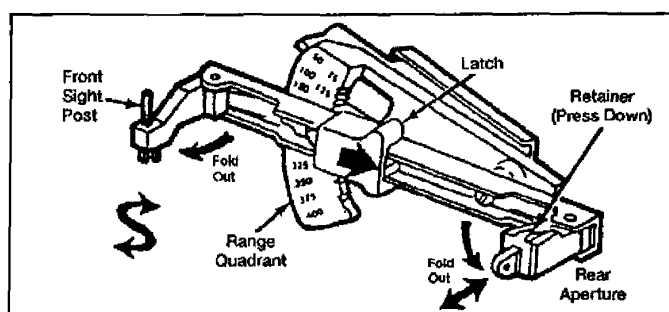

Figure 071-311-2130-5. Quadrant sight
- (1) Turn the windage adjustment screw clockwise to adjust for wind from the left.
- (2) Turn the windage adjustment screw counterclockwise to adjust for wind from the right.
10. Adjust the quadrant sight if necessary (figure 071-311-2130-5).